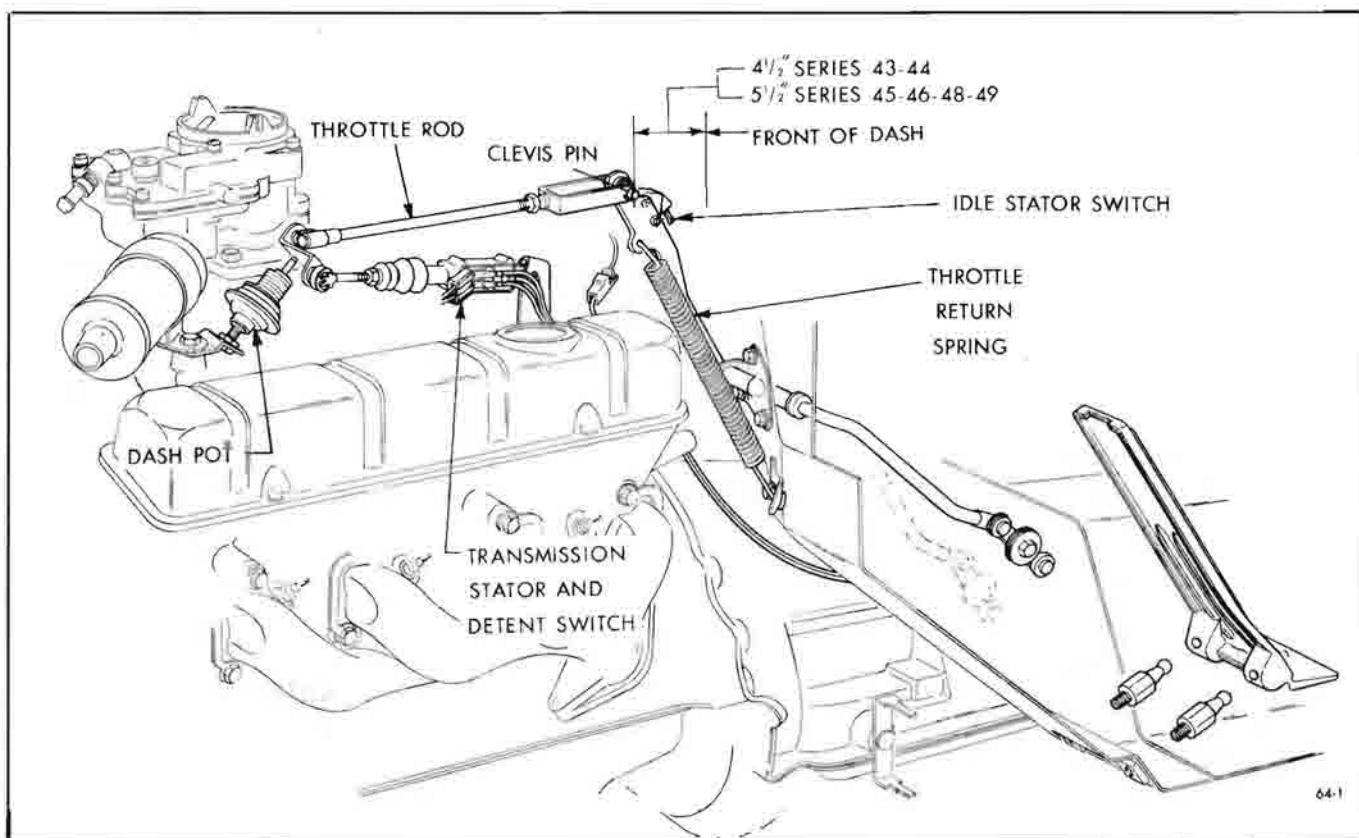

Figure 64-1—Throttle Linkage Adjustment
series). If measurement is off, shorten or lengthen throttle operating rod as required to correct. See Figure 64-1.
3. Operate linkage to open carburetor and make sure carburetor wide open stop is contacting. If carburetor does not reach wide open position and nothing is interfering with throttle linkage, transmission stator and detent switch must be bottoming. To adjust transmission switch, remove fastener and link from carburetor lever pin. See Figure 64-1. With carburetor wide open and switch plunger bottomed, adjust link until it will slip over carburetor lever pin, then shorten link 1-1/2 turns. Reassemble link and fastener, and tighten lock nut.
The carburetor throttle control linkage is designed to provide positive control of the throttle valves through their entire range without being affected by movement of the engine on its rubber mountings. See Figure 64-1.
The accelerator pedal is mounted on two ball studs which are screwed into weld nuts in the floor pan. Depressing the accelerator pedal causes the pedal to make a rolling contact with 3 rollers on the throttle operating lever, forcing the lower part of the lever to pivot forward and down. The lever pivots in a bearing mounted on the body cowl. See Figure 64-1.
whenever pressure is released from the accelerator pedal. See Figure 64-1.
On all automatic transmission cars, a transmission detent switch is mounted at the full throttle position of the carburetor throttle lever. When the throttle linkage is moved to wide open throttle position, the switch contacts are closed to cause the transmission to "down shift". This switch also has a second set of contacts which close slightly before wide open throttle position to cause the stator blades in the transmission to "switch-the-pitch" to high performance angle. See Figure 64-1.
On all automatic transmission cars, an idle stator switch is installed in a joint of the throttle linkage between the throttle lever and the throttle rod. Whenever the throttle linkage returns to curb idle position, the switch contacts are closed to cause the stator blades to "switch-the-pitch" to high angle. This reduces the transmission load on the engine at idle, thereby reducing the tendency of the car to creep. See Figure 64-1.